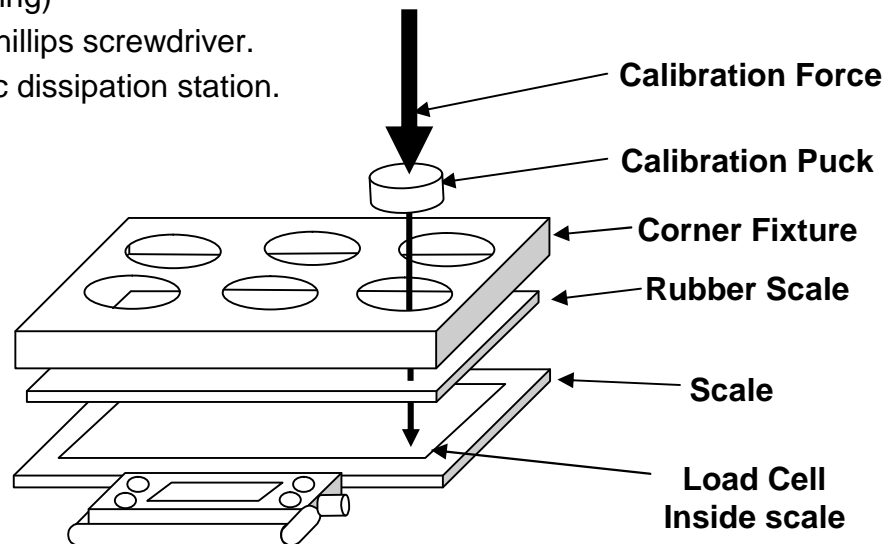

Figure 2
7. Position the corner fixture with rubber pad on the scale as per figure 2. Apply $\frac{1}{4}$ of the scale's capacity to the loading block. Annotate the reading.